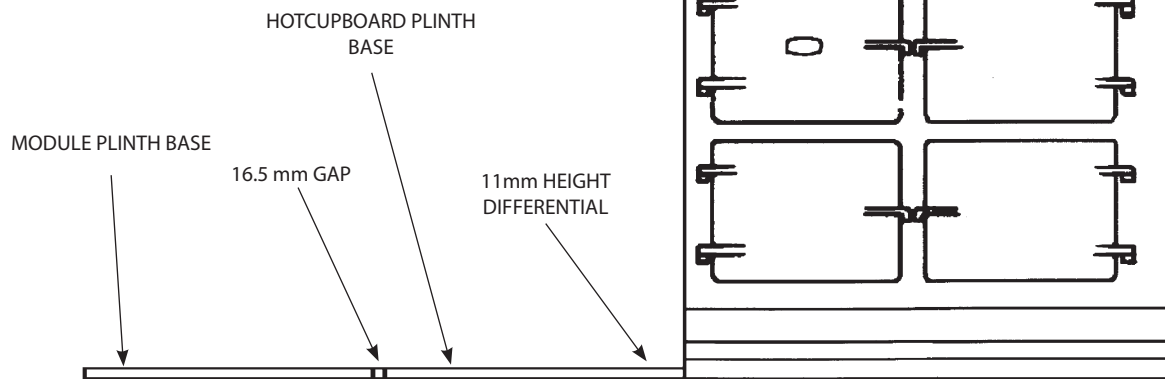

Fig. 10.4
7. Also check height differential between the Module plinth and AGA 7 Series plinth is correct: 11 mm. If necessary, use the adjusting studs in each corner to level the plinth. In extreme instances, shims may be used underneath the plinths (See **Fig. 10.3** or **Fig. 10.4**).